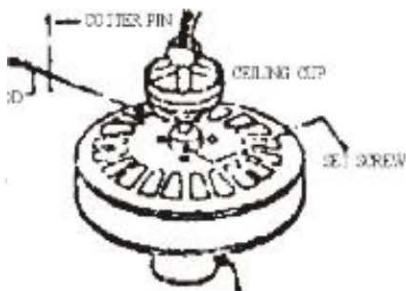

Fig.2
3. Insert stem into fan and align through-holes for hanging rod. Insert cotter pin into hole and bend back the ends to fasten. To avoid rattle, make sure ends of cotter pin do not rest on motor housing as shown in Fig.2